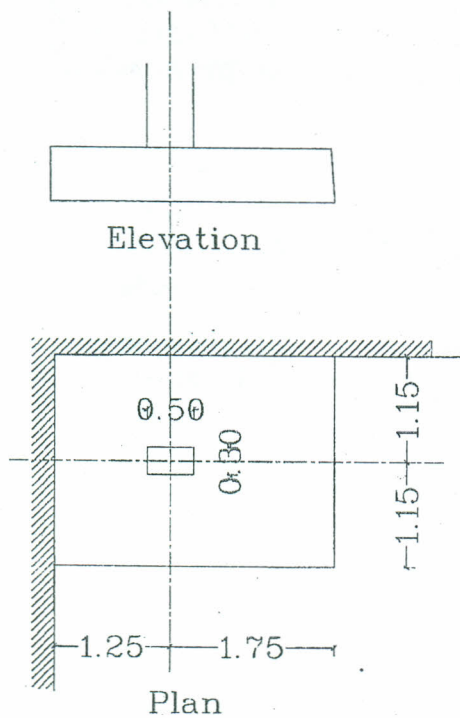

Fig.1
4. Fig.1 shows the dimensions of an existing isolated footing made to support a column of skeleton type building. The load exerted on the column per floor is 15.00 tons. Determine the maximum number of floors for this building such that the maximum stress beneath the footing does not exceed the permissible limit. Make complete design and draw neat sketches for this footing. The net allowable bearing capacity of the supporting soil is 1.50 kg/cm² at the foundation level.